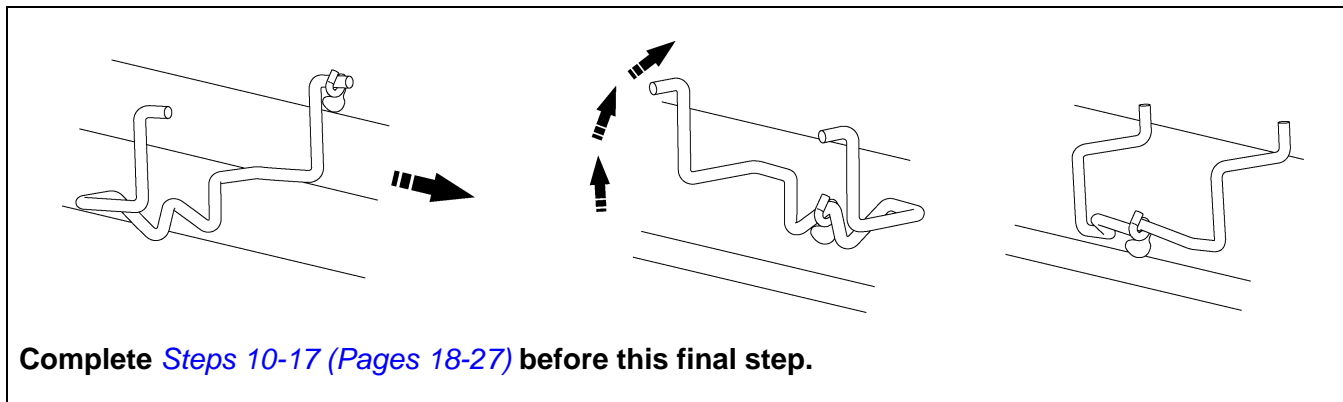

Figure 40
1. Insert spray bar retainer (60-0438) through pipe support bracket as shown in Figure 40.